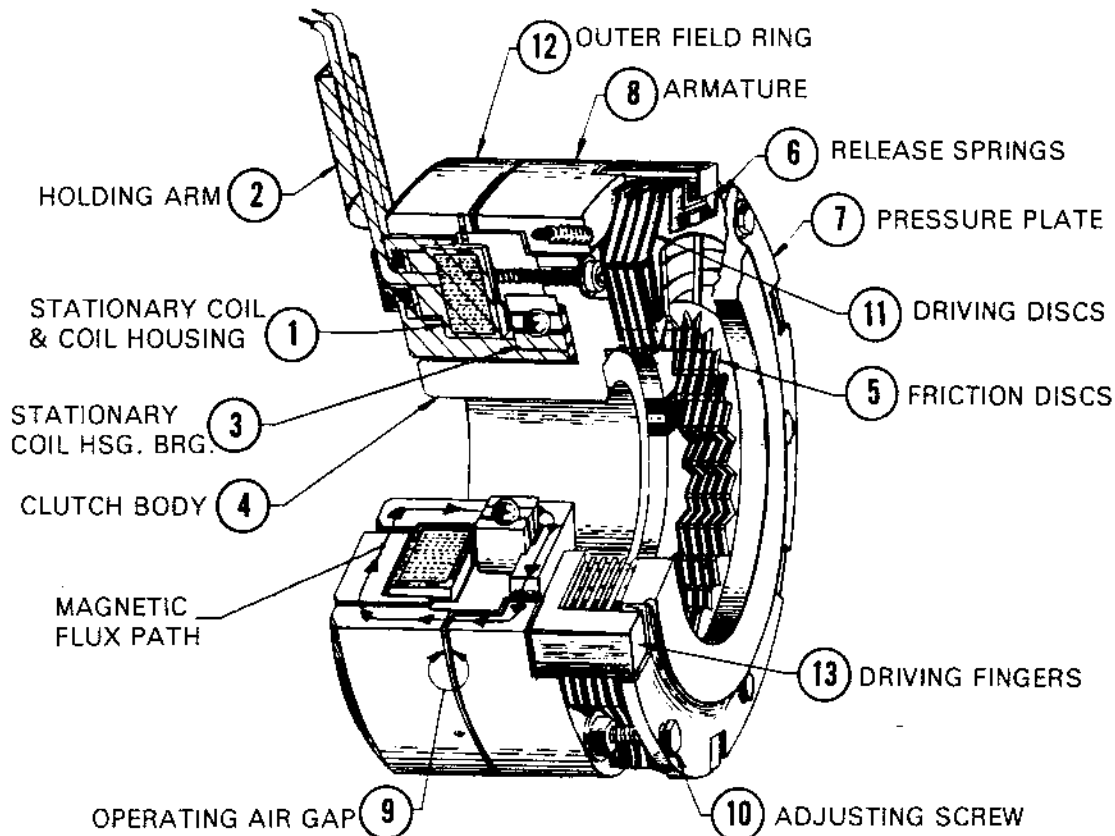

Figure 1A – Airflex Magnetic Clutch
To be more specific, refer to Figure 1A. The cross sectioned portion of the clutch [stationary coil and coil housing (1), holding arm (2) and the inner race of the coil housing bearing (3)] are stationary at all times. The clutch body (4) is keyed to the input member and rotates with it. Rotation of the clutch body causes rotation of all parts of the clutch except the friction discs (5) (when the coil is de-energized).
**WHEN THE COIL IS DE-ENERGIZED** and no magnetic flux flows, the release springs (6) separate the driving discs and move the pressure plate (7) and armature (8) to the right, opening the operating air gap (9) to its maximum open position. Note that the armature (8) and pressure plate (7) are mechanically connected by the adjusting screws (10). The friction discs (5) thus float freely between the driving discs. The friction discs are connected to the output by means of the driven gear (not shown) the teeth of which engage like a spline in the friction disc teeth.
**WHEN THE COIL IS ENERGIZED** a magnetic field is set up and magnetic flux flows around the path shown. The magnetic field causes the armature (8) to be attracted to the outer field ring (12). The armature moves to the left reducing the operating air gap (9) to its normal operating position. When the armature moves to the left, the pressure plate (7) also moves to the left because these parts are connected by six adjusting screws (10). The disc pack (driving discs and friction discs) are thus squeezed between the pressure plate (7) and the inside face of the clutch body (4). When the friction discs are compressed between the driving discs, they must rotate with the driving discs and the input torque will be transmitted to the driven gear and thus to the output member.
**The Coil Housing** is made of high quality magnetic iron and the coil is secured in the housing by means of a high temperature, high strength epoxy adhesive. As seen in Figure 1A, the coil housing forms part of magnetic-flux path.
**The Outer Field Ring** is made of high quality magnetic iron and forms part of the magnetic-flux path as shown in Figure 1A.